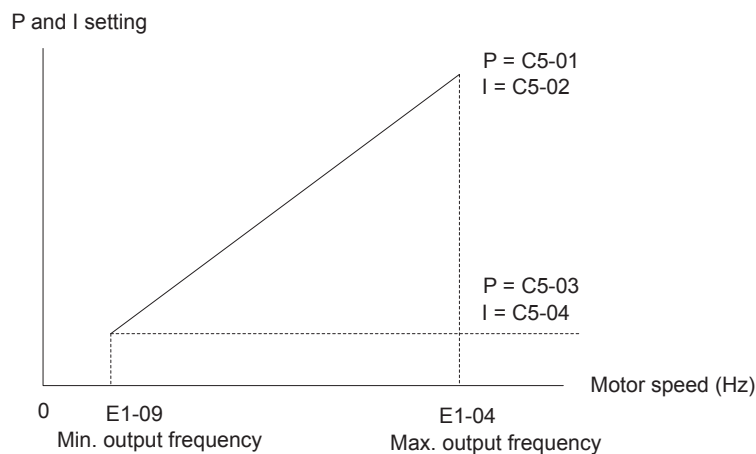

Fig 6.72 Speed Control Gain Integral Time Adjustment for V/f Control with PG
When using V/f control with PG, set the proportional gain (P) and the integral time (I) at E1-09 (minimum output frequency) and E1-04 (maximum output frequency). *Fig 6.72 Speed Control Gain Integral Time Adjustment for V/f Control with PG* shows how the proportional gain and integral time change in linear fashion based on the speed.